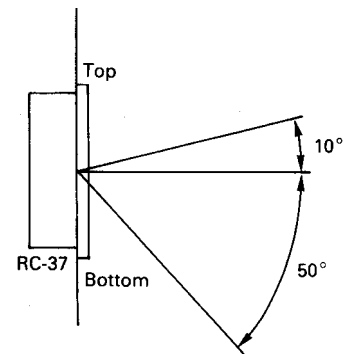

Figure 7
- RC-37's LCDs are designed to be clearly visible within the angles shown in Figure 7. Mount the RC-37 so that the visual angle is within this range.